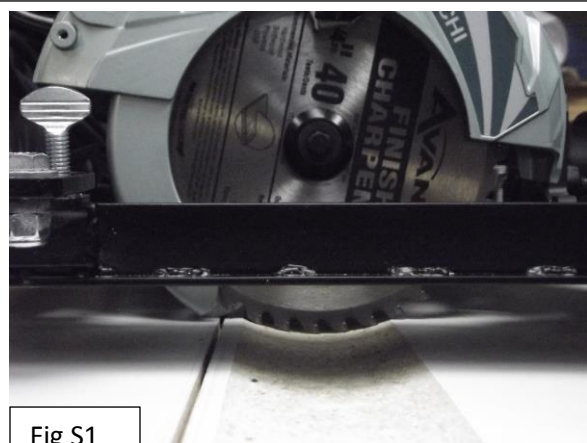

Fig S1
- 5) **Be sure the saw is Unplugged**, raise the blade guard using the blade guard lever and lower the blade of the saw so the saw blade just touches the Rip-Cut groove in the table top. Raise the saw blade slightly so it doesn't cut into the Cross Cut groove in the table top. Lock the saw blade, plug the saw back in, turn on the saw using the remote power switch and make your cut See Fig S1
NOTE: In Fig S1, The saw blade is lowered just shy of the rip-cut groove in the table top. This depth of cut will give you the cleanest cut in any material.